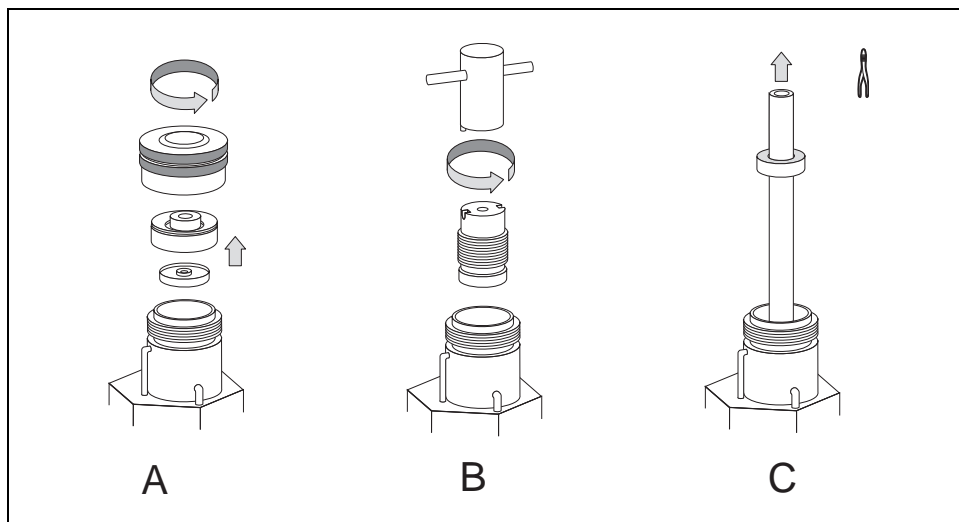

Figure 15-2. Replace and Clean the Liner (1)
5. Remove the septum holder with septum, then the septum support. See A of Figure 15-2.
6. Use the liner cap wrench provided with the GC to remove the injector liner cap. See B of Figure 15-2.
7. Use tweezers to remove the liner with the graphite seal. See C of Figure 15-2.